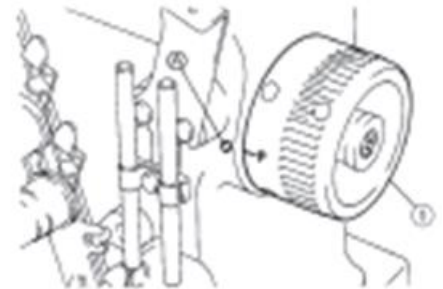

Fig. 2
A. When the needle bar is in the highest position, the mark P on the handwheel (item 1) should meet mark A (see Fig. 2).